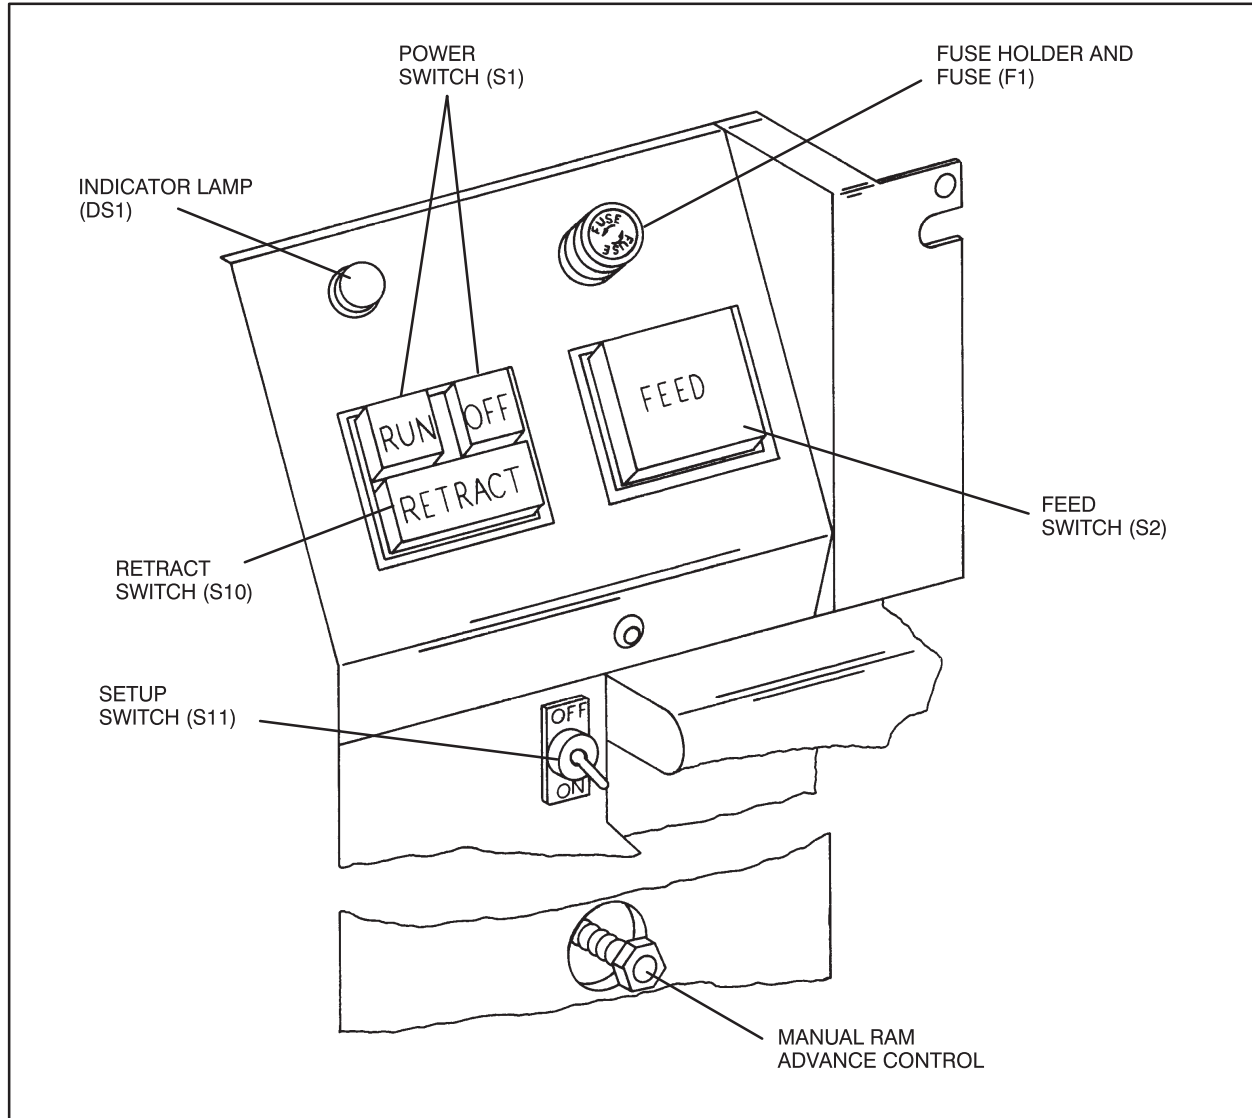

Fig. 2–1. Machine Switches and Controls
2.2. Switches and Controls (Figure 2–1)
3.1. Manual Cycling Procedure (Figure 2–1)